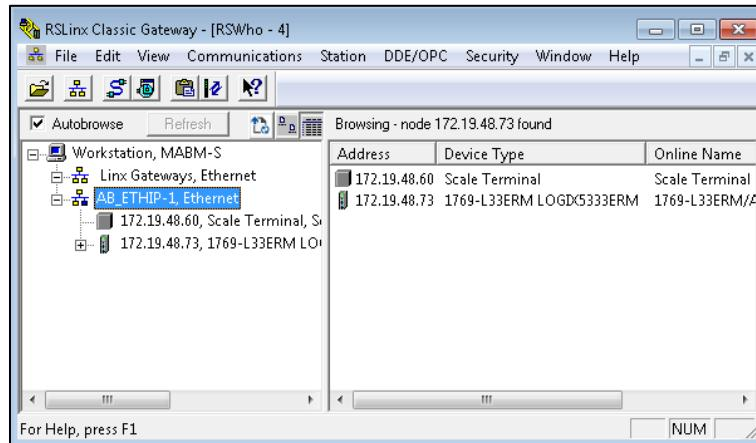

Figure 21: Scale Terminal Visibility
- Click on **RSWho** icon as per **Figure 21**.
- Now, we have access to the **Scale terminal** and PLC whose IP Address are 172.19.48.60 and 172.19.48.73 respectively (see **Figure 21**).